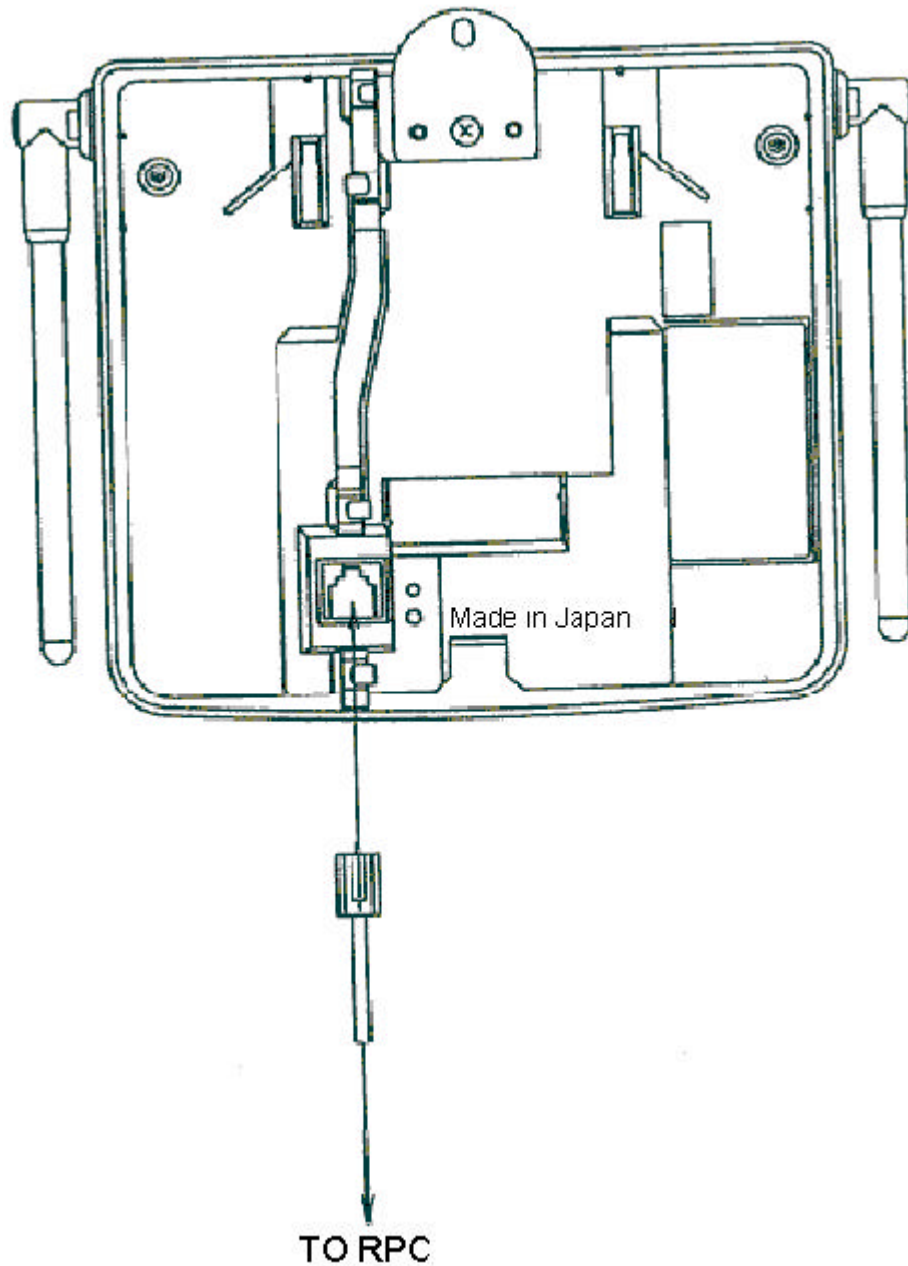

Figure 3-10: Connection to RPC
3. Insert the RJ-11 end of the RPC cable into the connector on the back of the indoor RP. Refer to Figure 3-10.